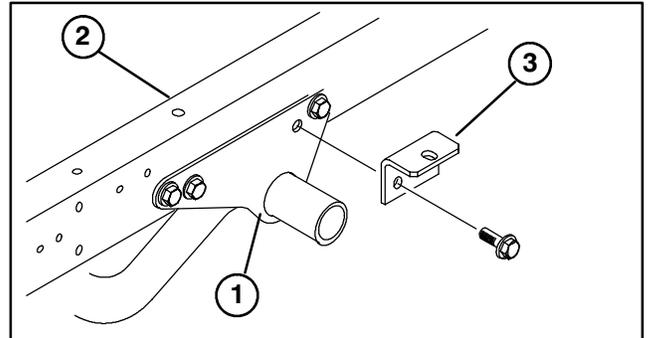

Figure 3
1. Remove (2) flange head capscrews and flange locknuts securing rear of each engine frame mounting bracket to each side of vehicle frame (Fig. 3).
2. Loosely secure a attachment bracket to each engine frame mounting bracket and vehicle frame with (2) flange head capscrews and flange locknuts previously removed (Fig. 3).